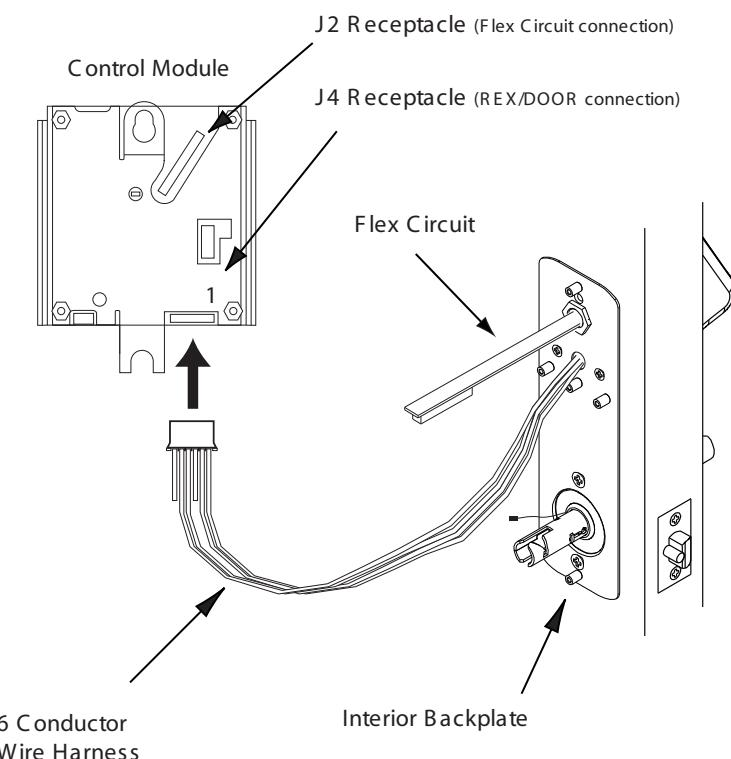

Figure 8A
2. Connect the red/grey wires from Control Module to the red/grey wires from the Lockset. At this time, plug in the optional request to exit (REX)/Door Switch cable. (See the chart below and Figure 8A.)